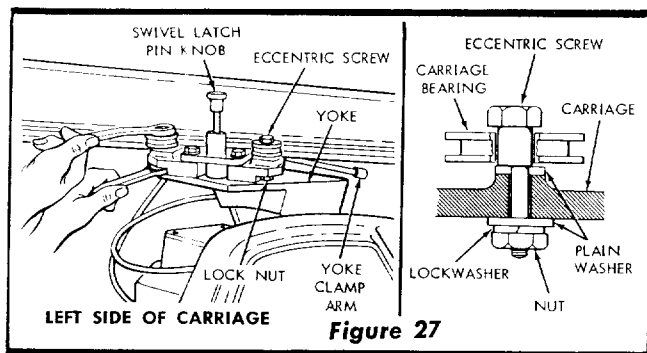

Figure 27
2. Loosen the yoke clamp arm (figure 27), lift up on the swivel latch pin knob and rotate the yoke approximately 45° counterclockwise (when viewed from above) to position the cutout portion of the yoke below the rear carriage bearing, thus providing room for the wrench on the nut.
3. Working on the rear bearing (figure 27), loosen the nut just enough to permit the eccentric screw to turn and rotate it a partial turn (left or right) as required to take up all looseness. Hold the eccentric screw and tighten the nut. The adjustment is correct when there is no "play" between the carriage and radial arm, yet the carriage moves relatively free on the tracks.